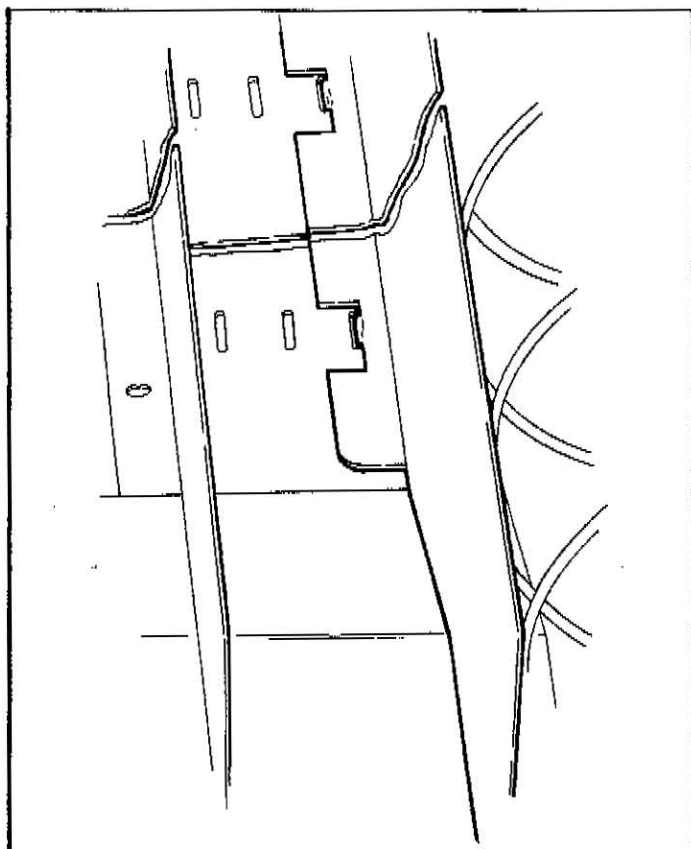

Figure 3. ALIGNMENT OF MOVEABLE PRODUCT SPACERS.
5. **PRODUCT SPACERS — 3 SELECTION SHELF:** A product spacer is used to reduce the width of the product area and should be used on any 3-selection snack shelf where the product width is 4½" or less. Spacers should fit within 1/8" of the product but should not fit tight against the product. There are three positions in each snack space where these spacers can be placed. To install the spacer, align the lock ears (on the lower edge of the spacer) with one of the three sets of slots (one front and one rear). (See Figure 3). Push the spacer to the rear to allow the ears to enter the slots, then allow the spacer to move forward. Be sure the ears are in the same set of slots, front and rear. (See Figure 3). Continue loading all spirals adjust with spacers where needed in the top shelf. Return the top shelf to the vended position and following this procedure load the remainder of the snack spiral shelves.